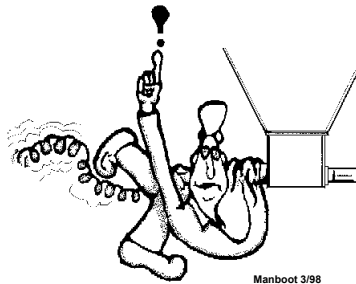

**Figure 52. Auger and Anchor Bearing Connection**
12. Insert the Anchor Assembly into the auger until it touches the washer at the back of the anchor. Tighten the setscrews in the center of the anchor until they touch the auger, then tighten a maximum of 1/2 turn. See **Figure 52**.